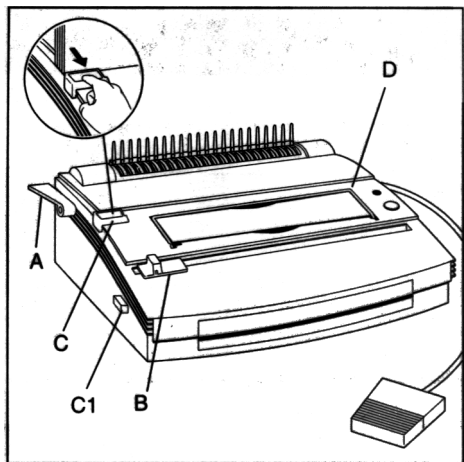

Figure 1
1. Set Edge Guide (B) to paper size you wish to bind (11", 8-1/2" letter size, 11-1/4" oversized cover, A4 ring, A5, Japan A4) (see figure 1). When using oversized covers, set the Edge Guide on Covers, punch all of the covers for your job and set aside. Move the Edge Guide back to the 11" setting to punch your contents then bind.
2. Raise lid on cover (D), and pull up appropriate selector pins to disengage punch pins that may nick the edge of your sheet. To determine which pins should be pulled up follow the punch steps indicated in section "D" using blank test paper.
1. Slide the Binder Sizer open (C) (see figure 1).